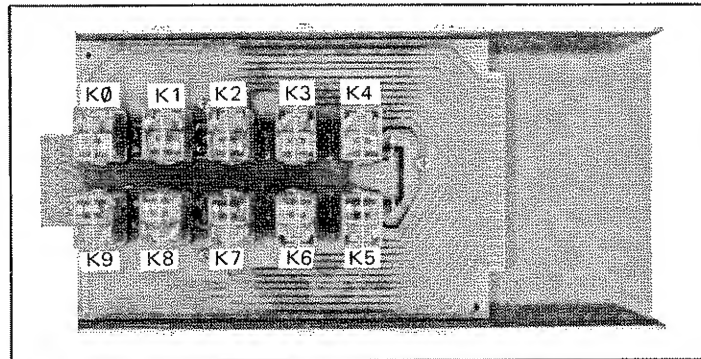

Figure 7-C-9. Actuator Relay Locator.
4. Slide the metal retainer off the relay as shown in Figure 7-C-10.